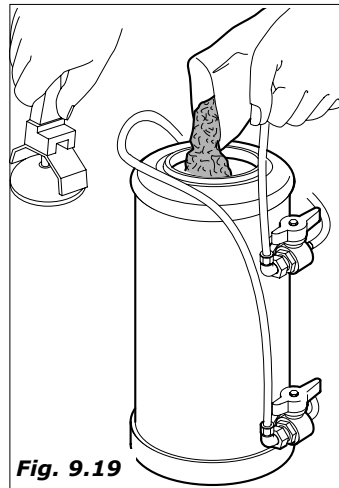

Fig. 9.19
- remove the cover and introduce 1,5 kg of normal cooking salt. (Fig. 9.19)